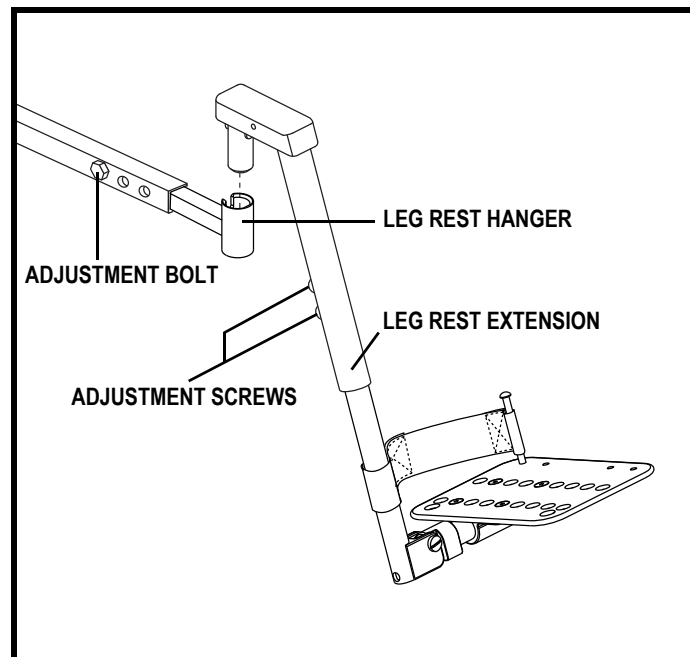

Figure 16. Heavy Duty Drop-In Leg Rests
1. Remove the adjustment bolt from the side rail. See **figure 16**.
1. Remove the adjustment screws from the leg rest extension. See **figure 16**.